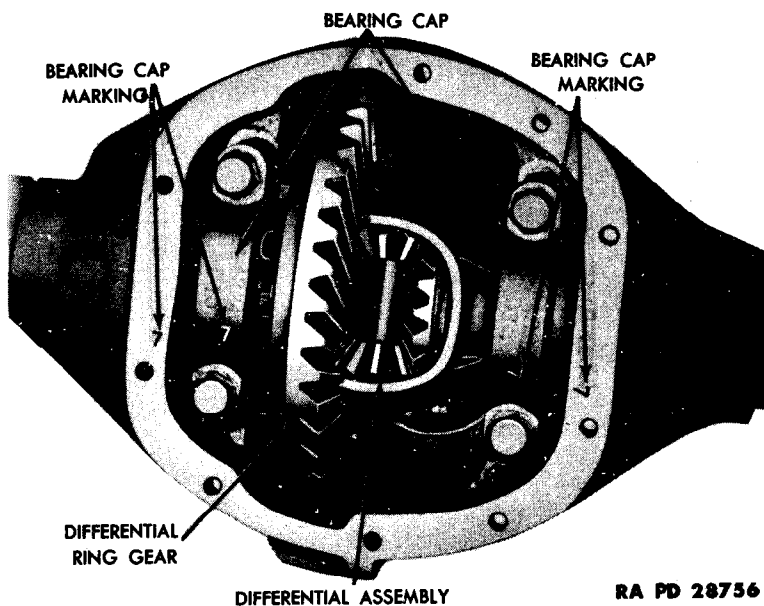

Figure 47 — Differential Assembly
e. **Remove Differential** (fig. 47). Remove the ten cap screws that secure the differential cover to the differential housing. Remove the differential cover and gasket. Remove the two cap screws from the bearing cap at each end of the differential gears and remove the caps. Remove the differential gear assembly from the housing, using a pry bar, if necessary. Reinstall the bearing caps in the housing, noting the markings (fig. 47) to assure their being installed in their correct location.
(2) **REMOVE RING GEAR FROM CASE** (fig. 47). Bend the ears of the lock plates off the cap screws. Remove the cap screws that secure the ring gear to the case, and remove the ring gear.